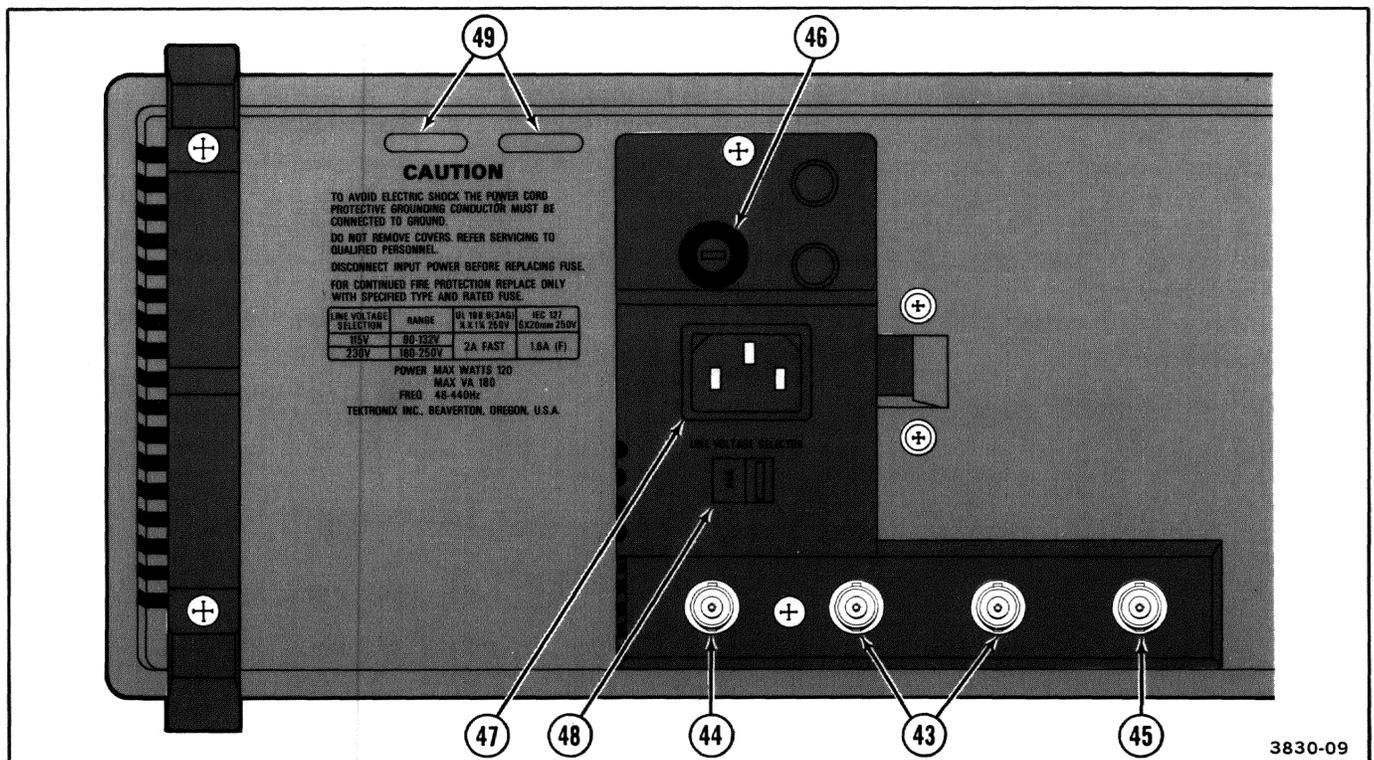

Figure 2-7. Rear-panel controls and connectors.
Refer to Figure 2-7 for location of items 43 through 49.
- ④④ **CH 2 SIGNAL OUT Connector**—Provides an output signal that is a normalized representation of the Channel 2 input signal. The output amplitude into a 1-M $\Omega$  load is approximately 20 mV per division of input signal. Into a 50- $\Omega$  load, the output amplitude is approximately 10 mV per division of input signal.
- ④⑤ **EXT Z-AXIS IN Connector**—Provides an input connection point to apply external Z-axis modulation signals to the Z-Axis Amplifier. Either the sweep or the X-Y display may be intensity modulated. Positive-going signals decrease the intensity. From dc to 2 MHz, an input-signal amplitude of +2 V will blank a maximum-intensity trace; from 2 MHz to 20 MHz, an input-signal amplitude of +2 V will produce noticeable modulation on a normal-intensity trace.
- ④⑥ **Fuse Holder**—Contains the ac power-source fuse.
- ④⑦ **Detachable Power Cord Receptacle**—Provides the connection point for the ac power source to the instrument.
- ④⑧ **LINE VOLTAGE SELECTOR Switch**—Selects the nominal instrument operating voltage range. When set to 115V, the instrument operates from a power-source voltage having a range of 90 V to 132 V ac. Set to 230V, the instrument operates on an input-voltage range of 180 V to 250 V ac.
- ④⑨ **Mod Slots**—Contain the identification numbers of any installed instrument modifications.